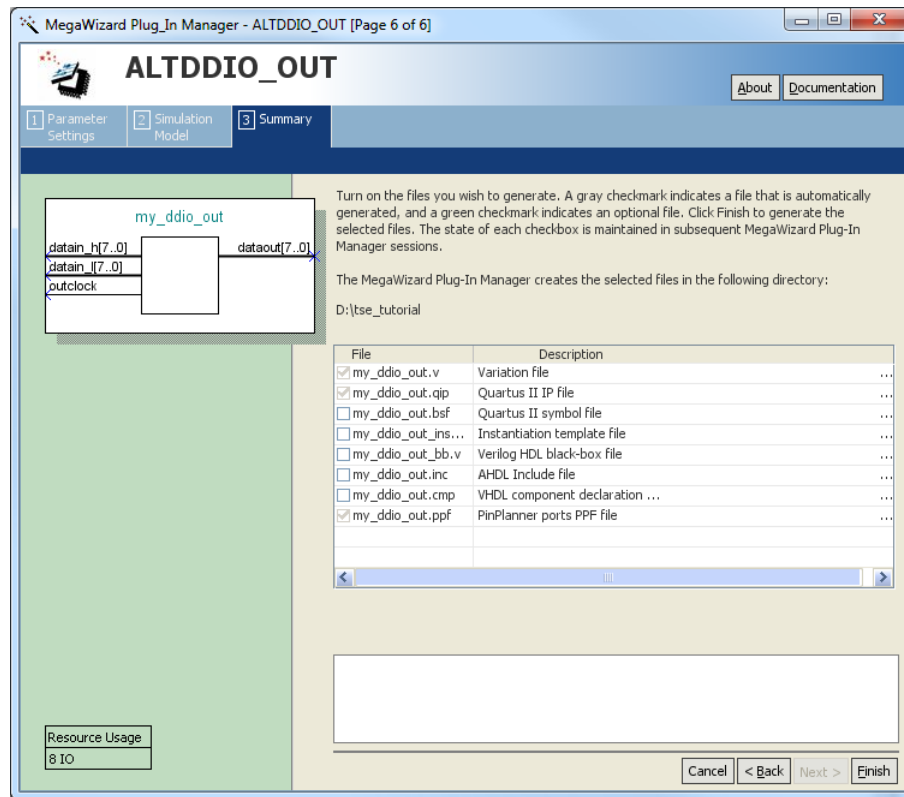

Figure 18. Settings for the Summary tab of DDIO_OUT register.
4. Navigate to the **Summary** tab and uncheck all the uncheckable files as shown in Figure 18. Then click **Finish**.